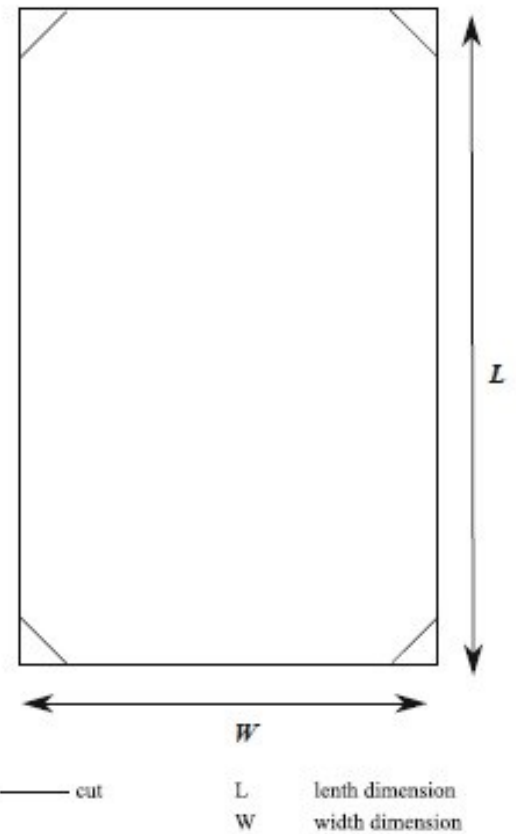

Fig. 1
- 2) Draw the tray according to the diagram (Fig. 1)
- 4) Draw the first tray according to the diagram in Fig. 1 with the flutes running lengthwise.
- 6) Draw the second tray according to the diagram in Fig. 1 so the flutes of the blueboard are running at right angles.